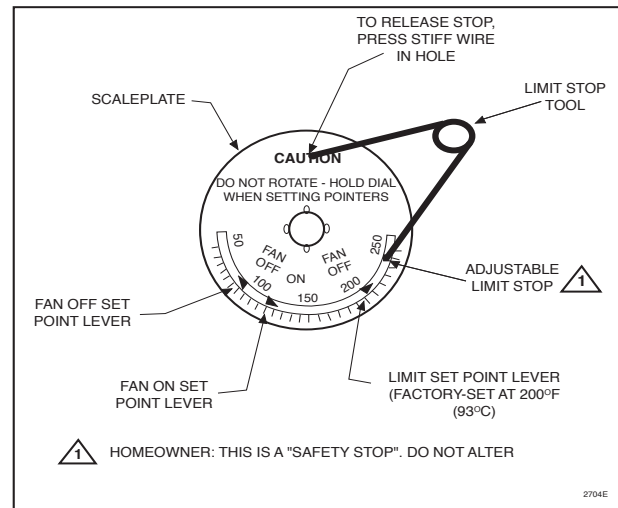

Fig. 10 - Changing the high limit stop.
All wiring must comply with local electrical codes and ordinances or in the absence of local codes with the National Electrical Code ANSI C1-1981-NFPA 70. Follow burner or furnace manufacturer's instructions if available; otherwise, see Fig. 10 and proceed as follows.
When adjusting the fan and limit set point levers (Fig. 10), hold the scaleplate dial to keep it from turning and straining the sensing element.
1. Push the small end of Limit Adjust Tool (196722) through hole in scaleplate (located at caution marking) to depress the stop disc not more than 1/16 in. (1.6 mm) to release stop lock (Fig. 10). Stop disc is on back of scaleplate.
2. While depressing the stop disc, insert the long end of Limit Adjust Tool next to limit stop (Fig. 10) and move the stop to desired setting. *If the L4064 is a replacement control, high limit stop setting should be the same as that of the control being replaced.* (Move stop clockwise ↻ to lower the setting, counterclockwise ↻ to raise it.) Then remove the limit stop adjust tool.